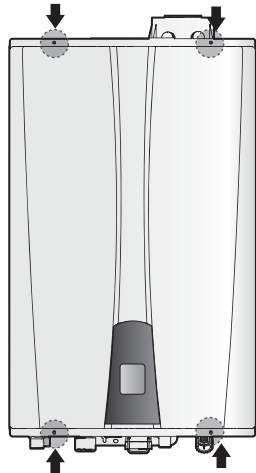

Figure 1. NPE Series Front cover
2. Using a Phillips hand screwdriver, remove four screws (two from the top and two from the bottom) of the front cover assembly to gain access to the internal components. See Figure 1 for illustration of the front cover on the unit.